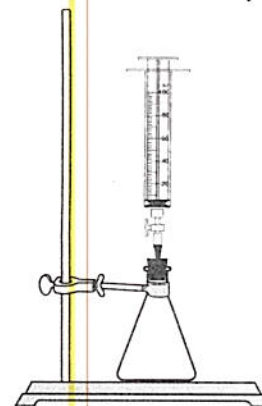

Figure 1.
3. Set up the gas-collection apparatus as shown in Figure 1. Make sure the rubber stopper fits securely in the flask and that the stopcock is open.